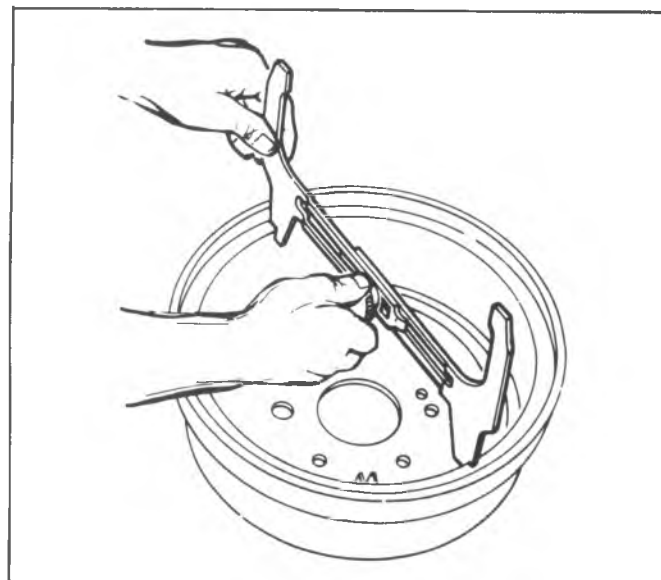
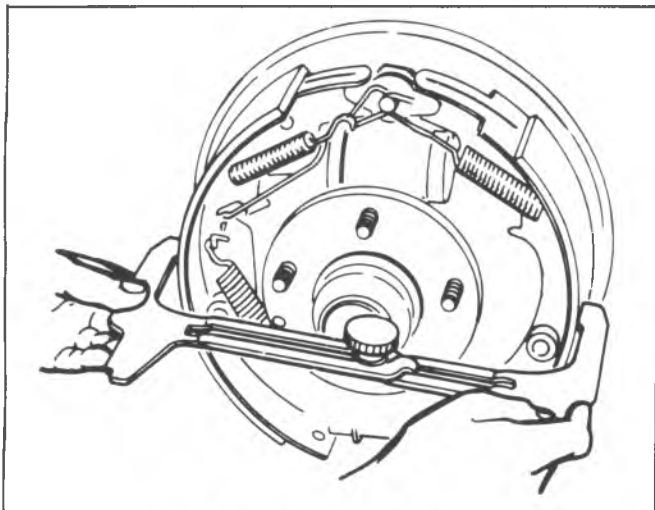

Fig. 5-45--Measuring Brake Drum I.D.
Fig. 5-46—Adjusting Brake Shoes
8. Measure brake drum I.D. using inside caliper portion of Tool J-21177 (fig. 5-45). Adjust brake shoes to dimension obtained on outside caliper portion of Tool J-21177 (fig. 5-46).
9. Measure brake drum I.D. using inside caliper portion of Tool J-21177. Adjust brake shoes to dimension obtained on outside caliper portion of Tool J-21177 (figs. 5-45 and 5-46).